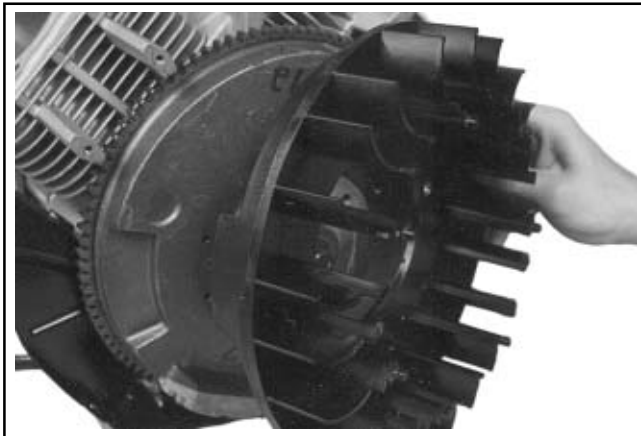

Figure 9-56. Removing Fan.
2. Remove the four hex. flange screws and fan. See Figure 9-56.